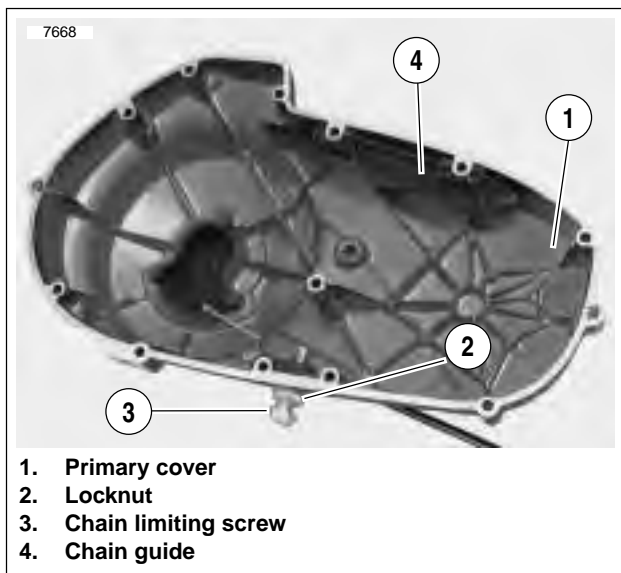

Figure 6-2. Removing Primary Chain Adjuster
6. See Figure 6-2. Loosen locknut. Turn chain adjuster screw counterclockwise (outward).
1. See Figure 6-2. Remove primary cover.